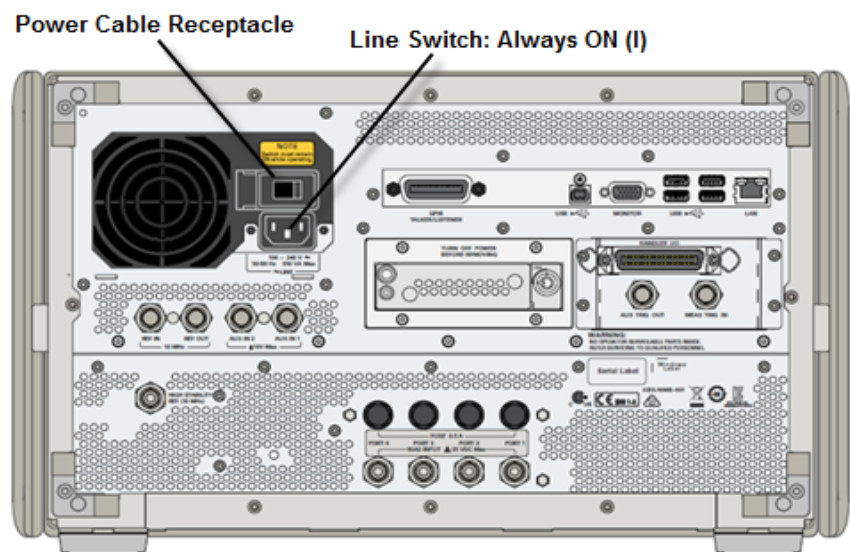

Figure 2 Line switch (Always ON) and power cable receptacle
Step 2. Use the supplied cable to connect between the power cable receptacle (Figure 2 on page 18) on the rear panel of the E5080A and a three-wire power outlet with the grounding prong firmly connected in the ground slot.